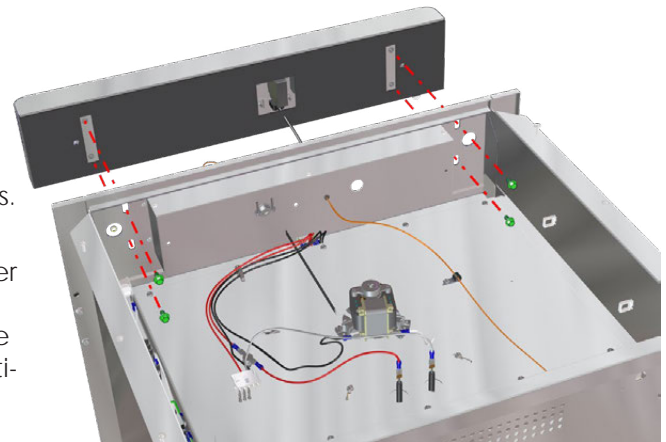

Fig. 33: Remove Header Assembly Box
4. To remove the Header Assembly Box, unscrew four hex locking bolts from the header assembly box mounting plates and remove the header assembly box (Fig. 33).